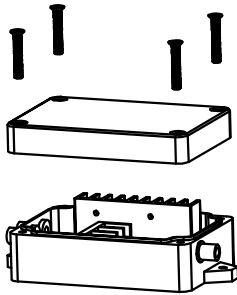

FIG 1
1. Loosen the 4 screws of the controller box and open the cover. (Ref.FIG 1).